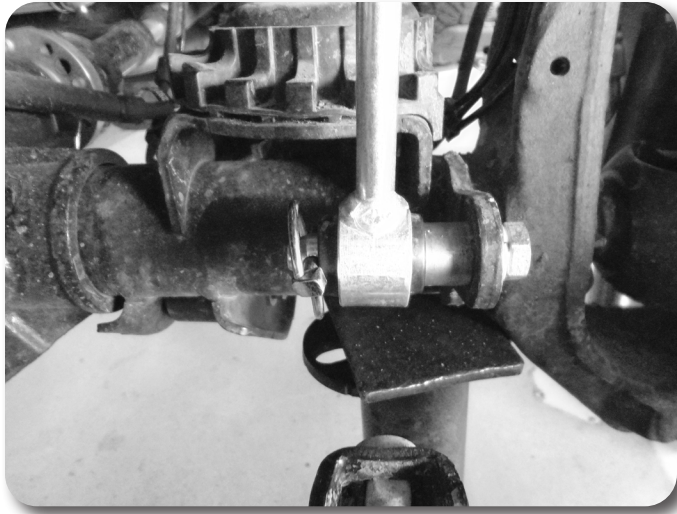

Figure 6
7. Lightly grease the inside of the sway bar link bushings and install on the disconnect pins at the axle. Fasten the ends with the provided lynch pins. **Figure 6**